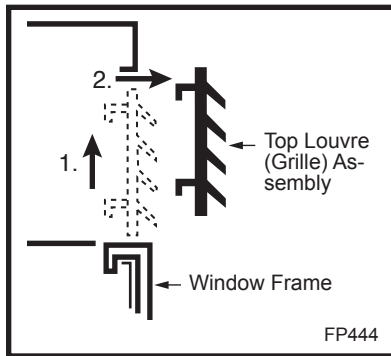

Fig. 15 Louvre installation and removal.
To remove the top louvre (grille) assembly, lift louvre up and then out. (Fig. 15)
6. Lift off the window frame as shown in Figure 15.